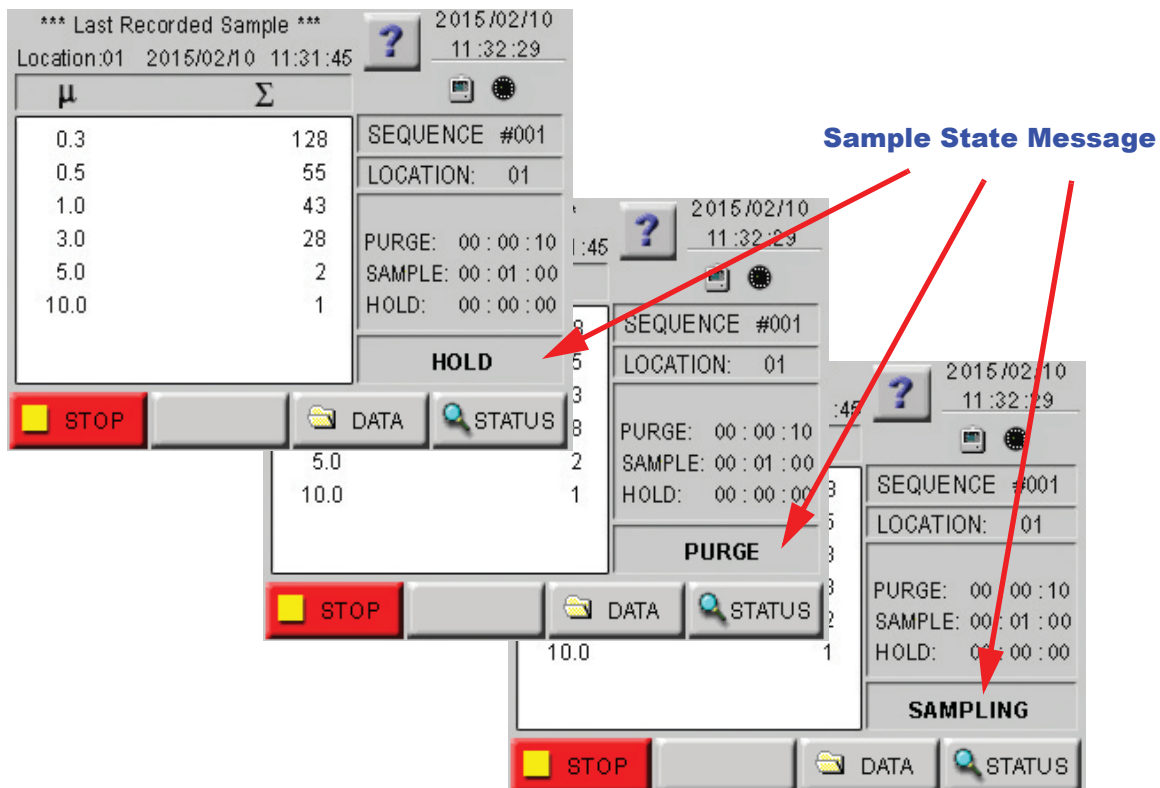

Figure 6-33 Sample State
15. If a Purge Time was configured, PURGE is displayed (Figure 6-33) when the Manifold Controller moves to the next port in its sequence.